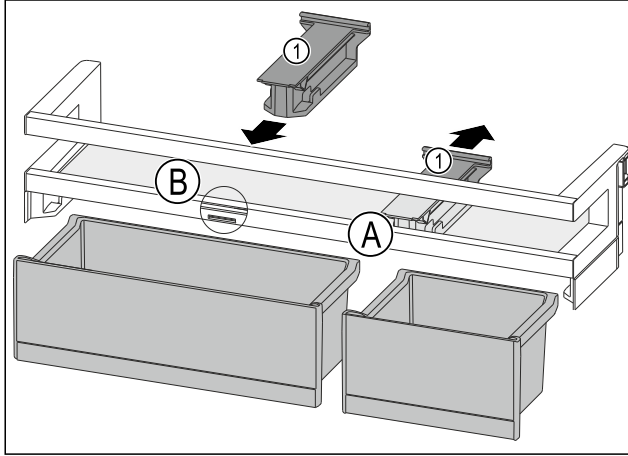

Fig. 115
- ▶ Take off the holding part Fig. 115 (1) in position Fig. 115 (A) backwards.
- ▶ Insert the holding part Fig. 115 (1) in position Fig. 115 (B).